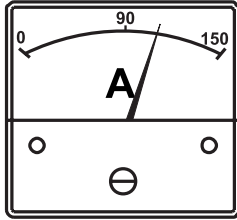

Figure 52. Ammeter (Load)
13. Observe the generator's ammeter (Figure 52) and verify it reads the anticipated amount of current with respect to the load. The ammeter will only display a current reading if a load is in use.